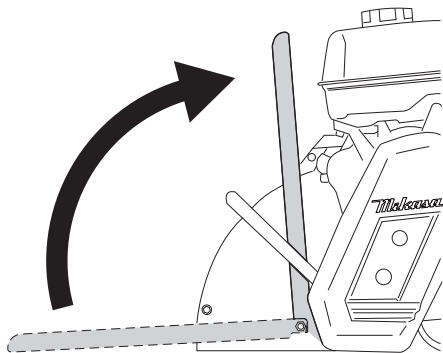

Fig.31
3. Stow the cutter guide.(Fig. 31)